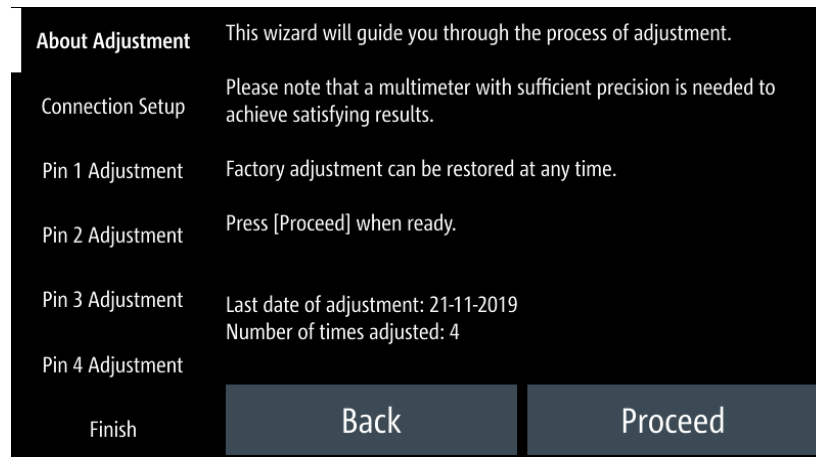
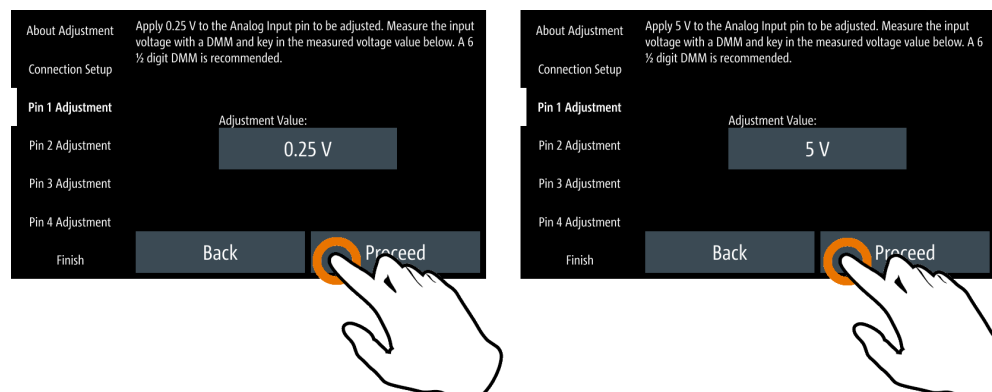

Figure 7-67: Analog in adjustment wizard
Figure 7-68: Analog in adjustment procedure
- Follow the on-screen instructions displayed in Figure 7-67. Supply the required voltage to the analog input and key in the measured value from DMM using the on-screen keypad. See Figure 7-68.